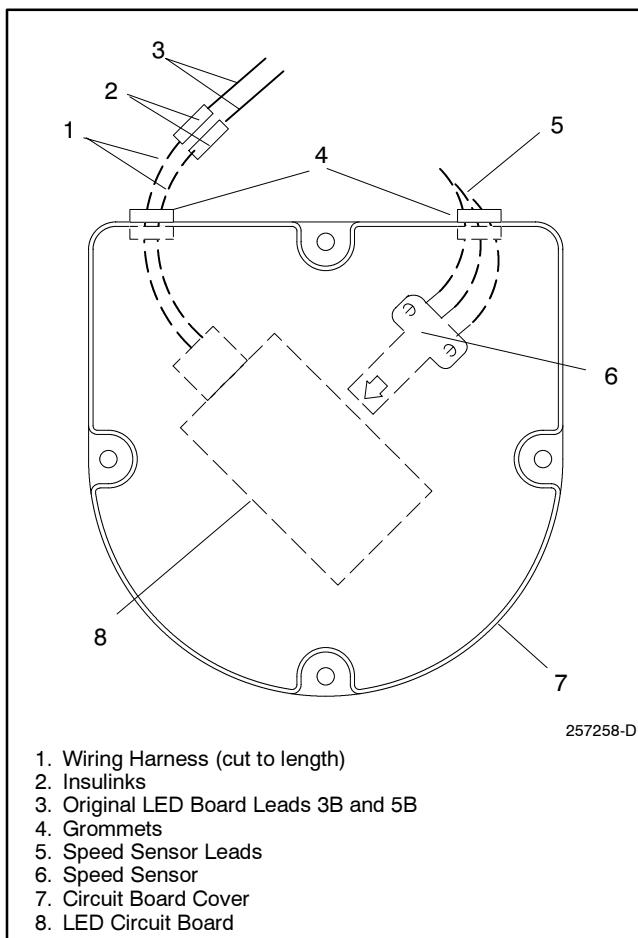

Figure 6 Circuit Board Cover
29. Cut connector off of original LED circuit board wiring harness (leads 3B and 5B). If there are leads other than 3B and 5B in original wiring harness these leads will not be used—tape to insulate lead ends. Place grommet (257069) over wiring harness (226672). Attach wiring harness connector to LED circuit board. Place circuit board cover in approximate final installation position and cut wiring harness leads to length. Attach wiring harness to leads 3B and 5B using insulinks (not supplied). Locate grommet in circuit board cover left-side slot. See Figure 6.